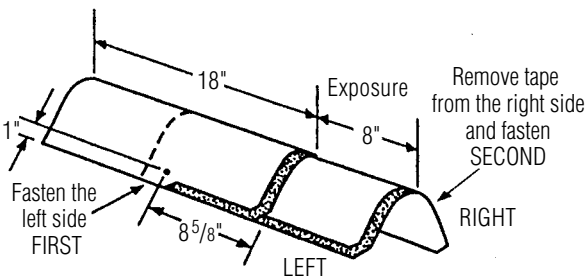

Figure 19-19: Installation of Shangle Ridge shingles on hips and ridges.
7. Fasten each cap with two fasteners (Figure 19-19). The fasteners must be 1 3/4" long, or longer, so they penetrate either 3/4" into the deck or completely through the deck, exposing at least 1/8" of the tip of the nail. Expose 8" of the Accessory along the ridge or hip line and cover all fasteners.